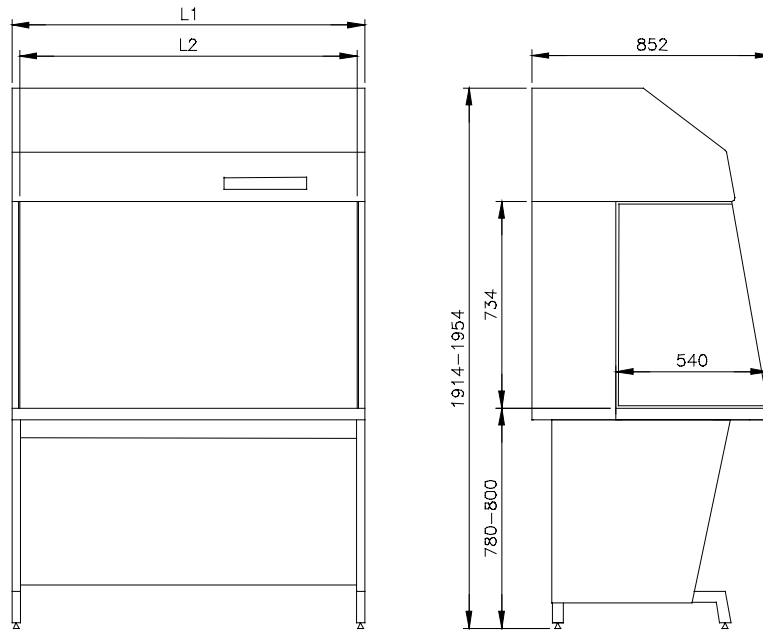

Figure 2: Dimensions of HORIZONTAL BASIS/PLUS models Plus/Basis
- Check the dimensions of the unit (see figure 2, page 5) to assure free access to the area of installation.